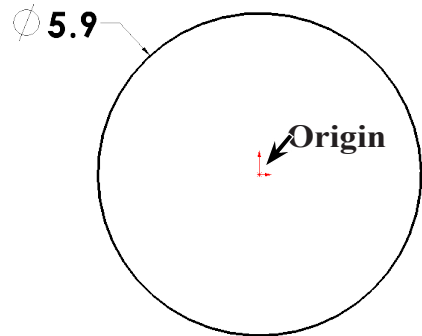

Fig. 2
- Step 3. Click **Circle**  (S) on the Sketch toolbar.
- Step 4. Sketch circle starting at the Origin , **Fig. 2**.
- Step 5. Click **Smart Dimension**  (S) on the Sketch toolbar.
- Step 6. Dimension **diameter 5.9**, **Fig. 2**.